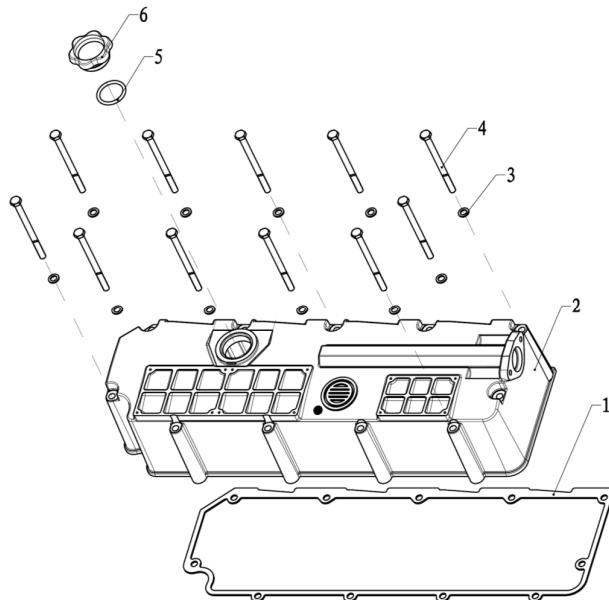

Figure 4-9 Overall machine cover
(1) Step by step to remove the bolt system, lift the machine cover in a direction that is perpendicular to the ground, lift the machine gasket from the groove.
(2) If you want to remove more, you can check the machine cover cluster and relatively install and remove to proceed to removing according to Figure 4-9.